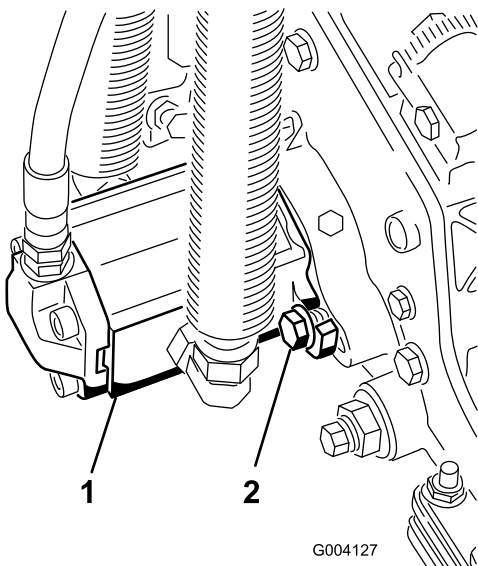

Figure 18
- Install the motor by rotating it clockwise so that the motor flanges clear the bolts (Figure 18). Rotate the motor counterclockwise until the flanges encircle the bolts then tighten the bolts.